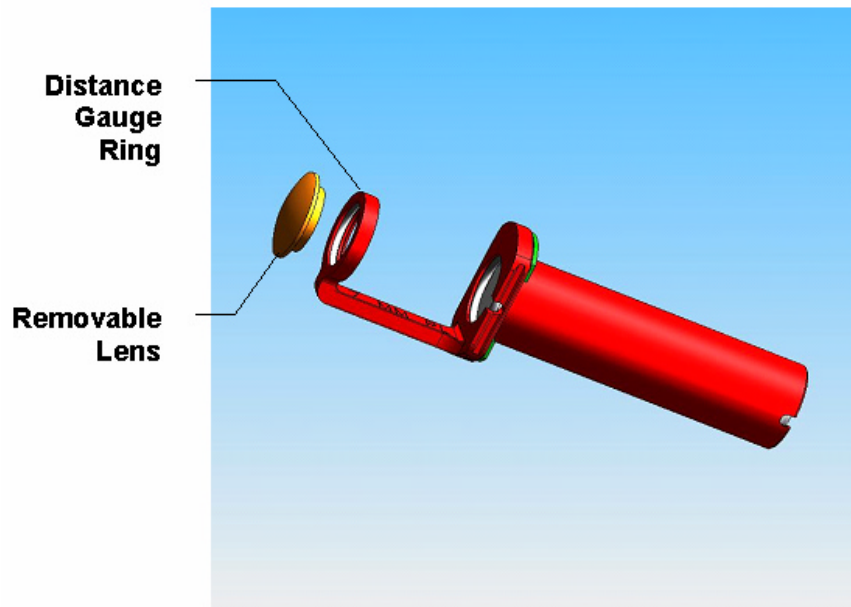

Figure 6.7: PL Distance Gauge Lens
3. The meniscus-shaped lens in the distance gauge ring is held in place by an o-ring. Remove the lens for cleaning by holding its edges and pulling it straight out (Figure 6.7).